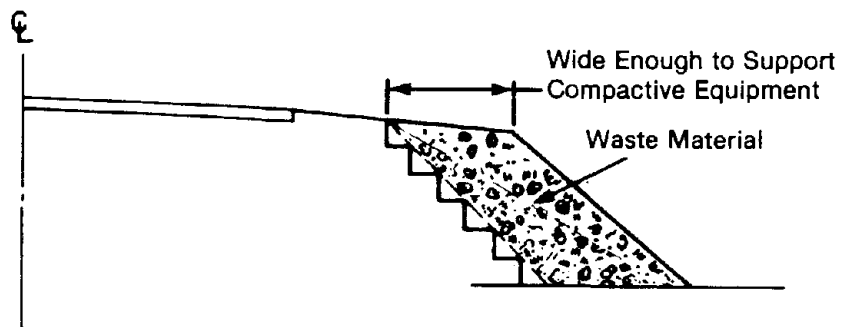

Figure 5. Flatten slopes.
- e. Flatten slopes, if appropriate using waste material (figure 5).